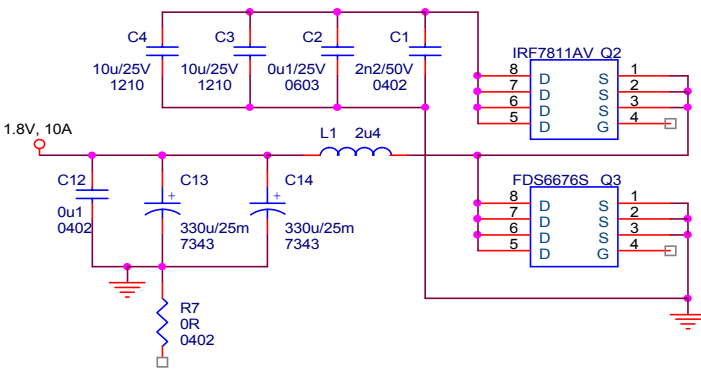

Figure 10: VDDQ Power Section
Next, looking at the power section, the schematics in Figures 10 and 11 below show the power sections for VDDQ and VTT:
- 6) Notice in Figures 10 and 11 on the previous page placement of 0Ω resistor at the bottom of the output capacitor to connect to VSSA1/2 for each output.